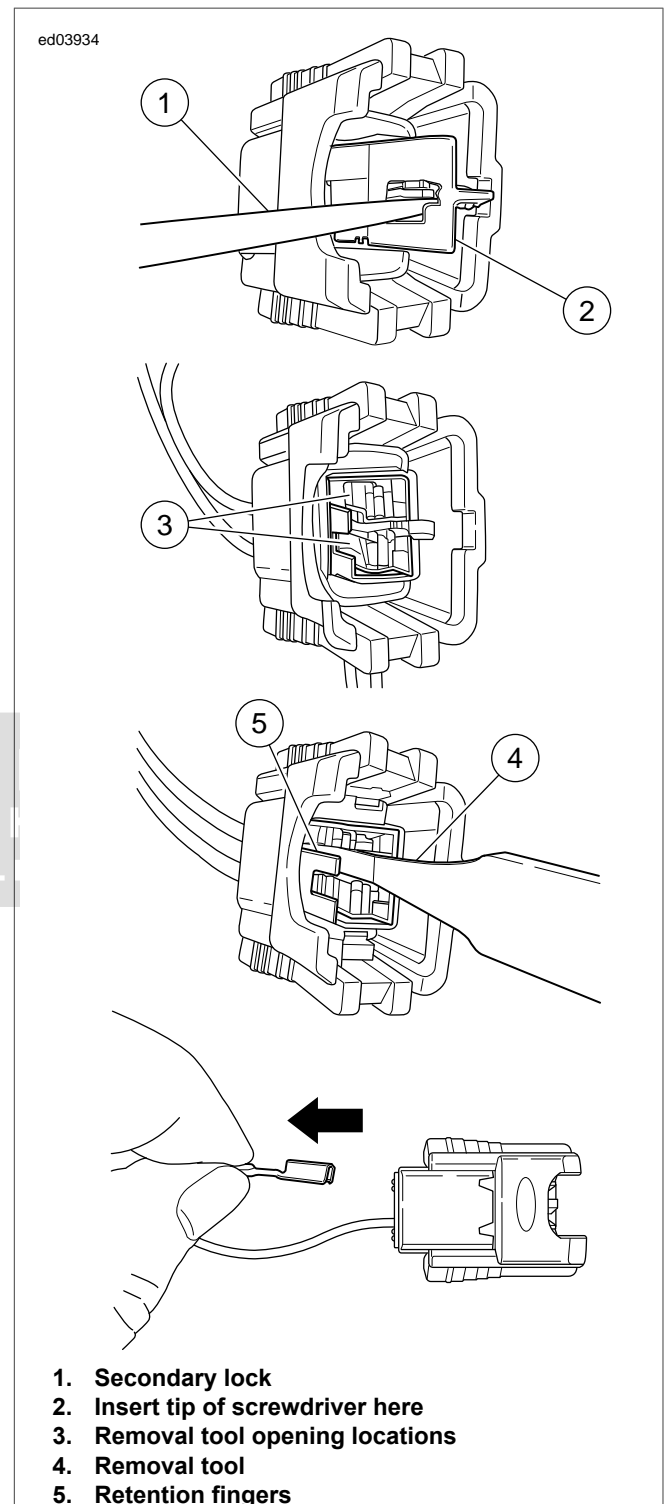

Figure B-21. Terminal Removal
- See Figure B-21. Insert the tip of a small screwdriver into the secondary lock and gently pry the secondary lock completely out of the housing.